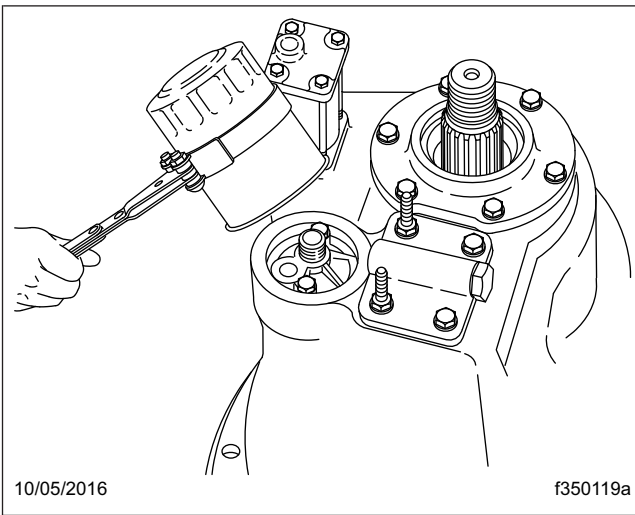

Fig. 3, Meritor Axle Oil Filter Removal
3. If equipped with an oil pump, remove the axle oil filter. Use a suitable filter strap wrench. See **Fig. 3**. Discard the old filter.